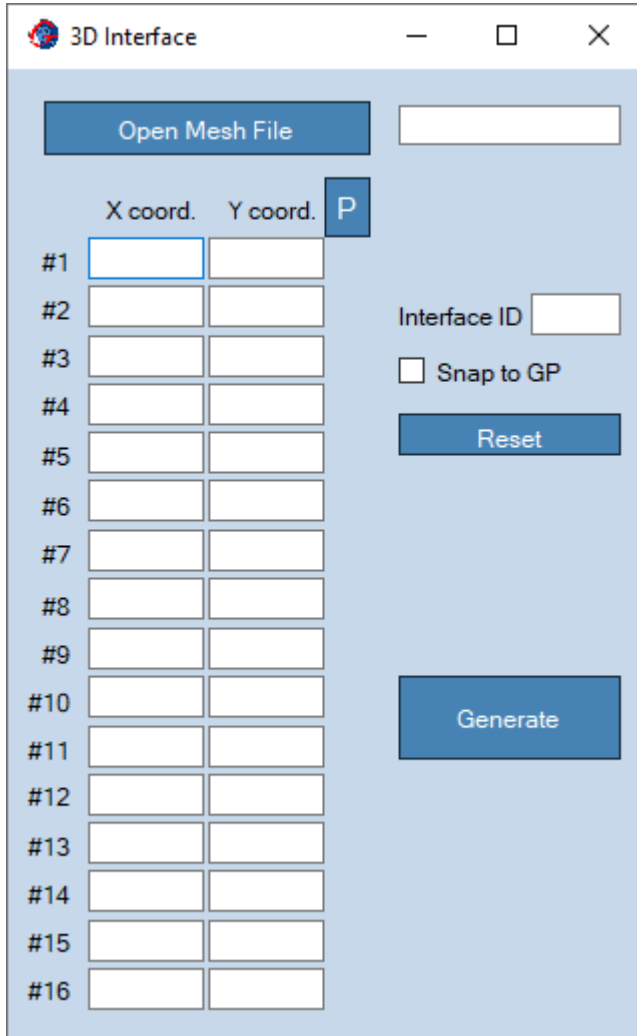

Figure 33: 3D Surfaces Menu – Interface Mesh.
- **Snap to GP:** This option is useful when coordinates (X,Y) are selected using the mouse. Given the unlikeliness of exactly clicking over a gridpoint (GP) coordinate, activating this option will internally correct the coordinate of the selected point to the closest GP coordinates. This option helps to create straight edges of the landform perimeter, aligned with the mesh grid.
- **Meshing Menu, Interface Mesh:** This menu option (shown in Figure 33) produces a code for creating interfaces over an irregular surface created with *Geo Meshing v4.3*. This option does not require the execution of *3D Meshing* after generation.